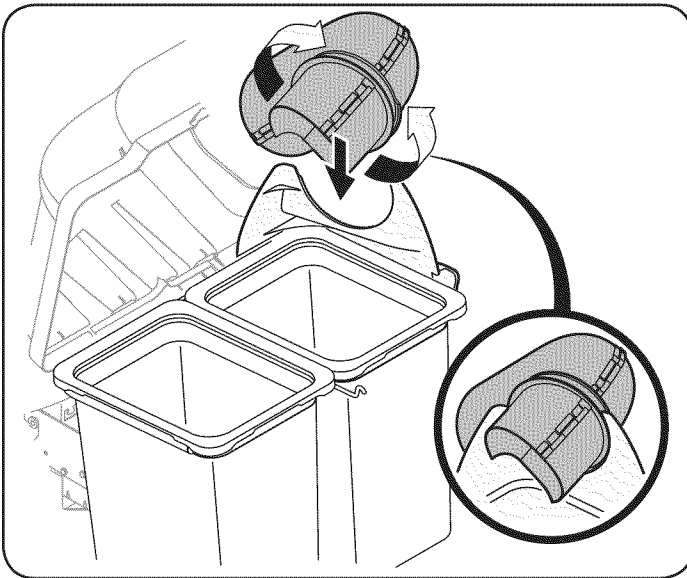

Figure 52
4. Continue to work the discharge chute down over the chute elbow until the groove on the discharge chute aligns with the upper chute support, as seen in the inset of Figure 52.